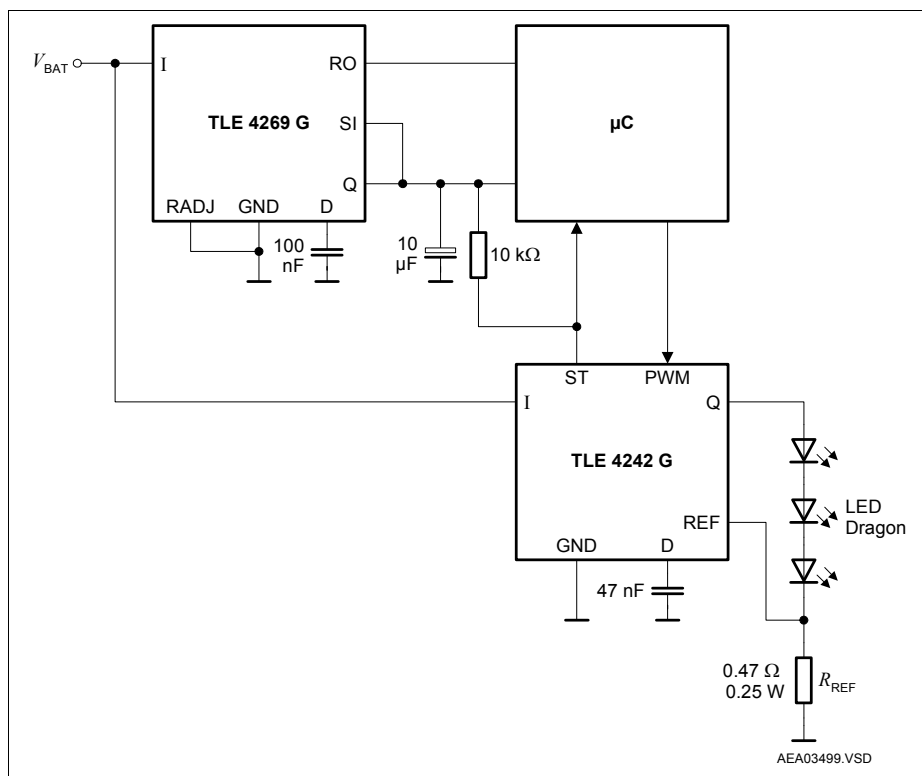

Figure 3 Application Circuit
Figure 3 shows a typical application with the TLE 4242 G LITIX™ Linear. The 3 LEDs are driven with an adequate supply current adjusted by the resistor R_{REF} . Thus brightness variations due to forward voltage spread of the LEDs are prevented. The luminosity spread arising from the LED production process can be compensated via software by an appropriate duty cycle applied to the PWM pin. Hence selection of the LEDs to forward voltage as well as to luminosity classes can be spared. The minimum supply voltage calculates as the sum of the LED forward voltages, the TLE 4242 G drop voltage (max. 0.7 V at a LED current of 300 mA) and the max. voltage drop at the shunt resistor R_{REF} of max. 185 mV.
1) $V_Q - V_{REF}$ equals the forward voltage sum of the connected LEDs, see Figure 3.